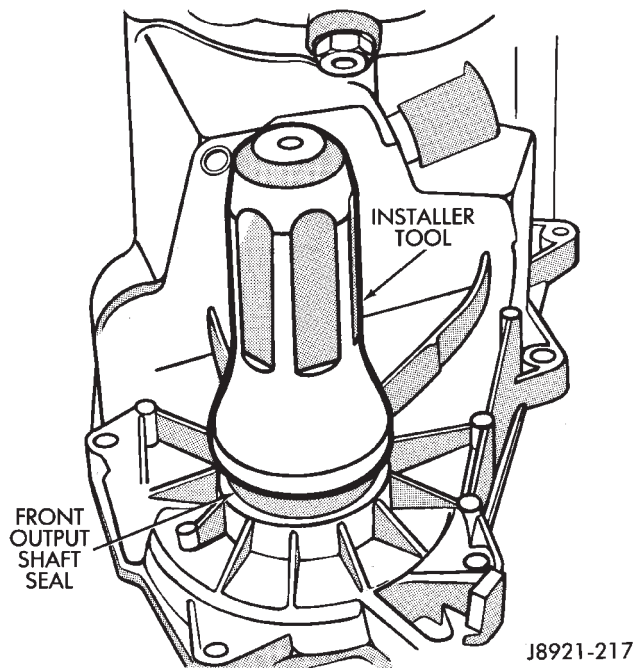

Fig. 39 Installing Front Output Shaft Seal
(5) Install new front output shaft oil seal (Fig. 39). Use suitable size installer tool to replace seal.